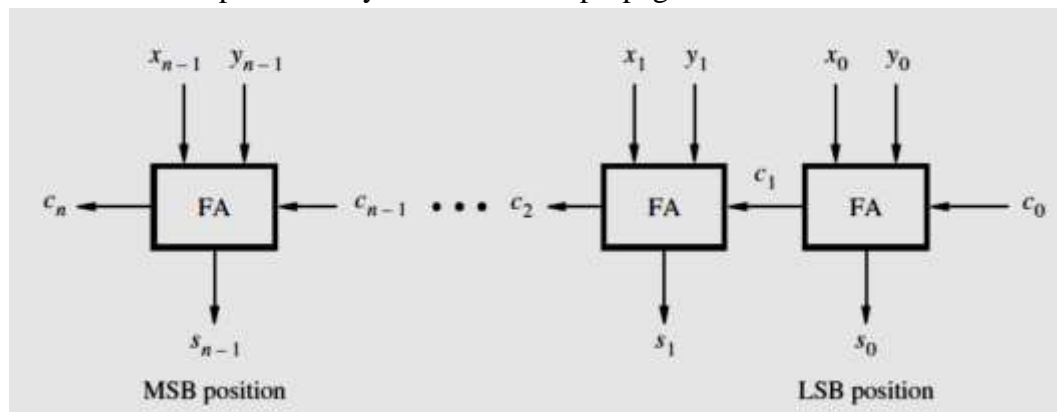

Figure 4.1 An n-bit ripple carry adder
- For each bit position, we can use a full-adder circuit, connected as shown in Fig. 4.1.